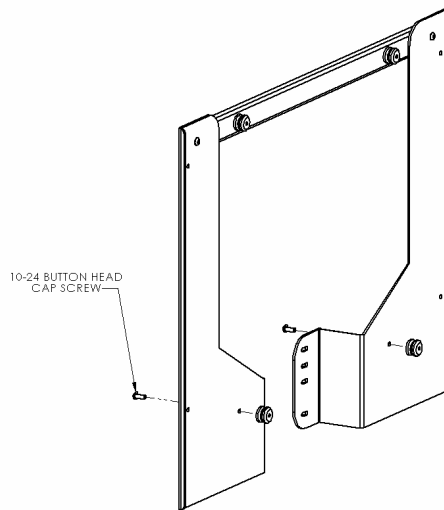

Figure 4
3. Using a 10-24 button head cap screw inserted from back side of bracket, secure remaining two mounting buttons, with chamfered hole of mounting button facing bracket(see Figure 4)